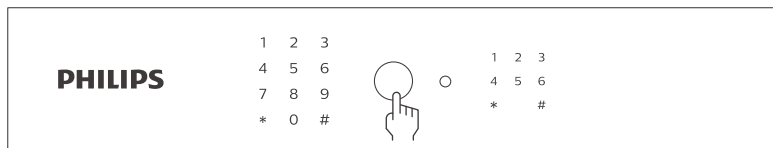

Figure 2
1. Open safe door and press "⊗" on the battery compartment. After hearing a voice prompt "Please enter fingerprint or PIN code", enter your fingerprint as shown in Figure 2.